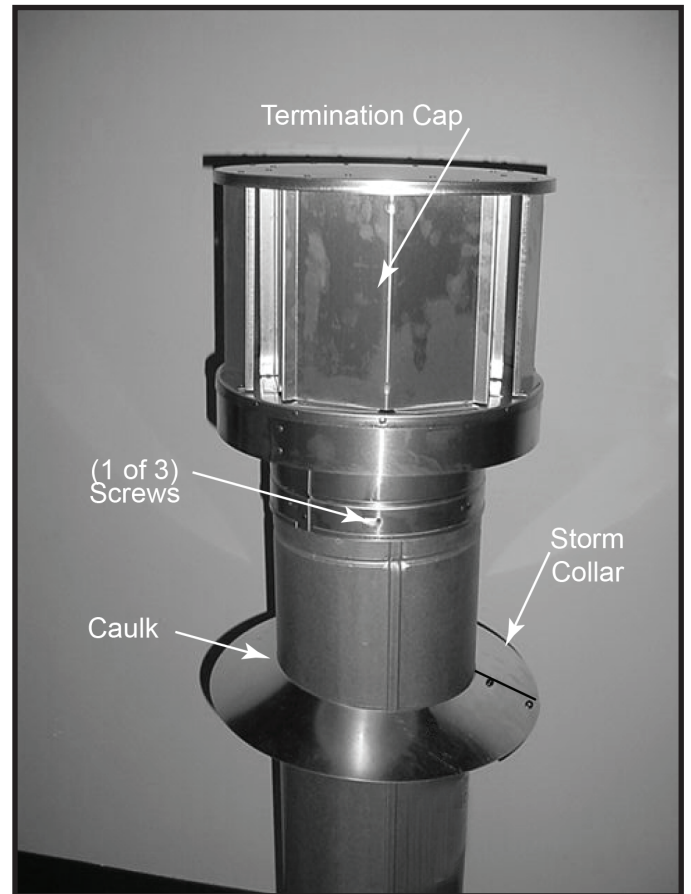

Figure 7.14
- Secure the cap by driving three self-tapping screws (supplied) through the pilot holes in the outer collar of the cap into the outer flue of the pipe (see Figure 7.14).
- Caulk around the top of the storm collar. See Figure 7.14.